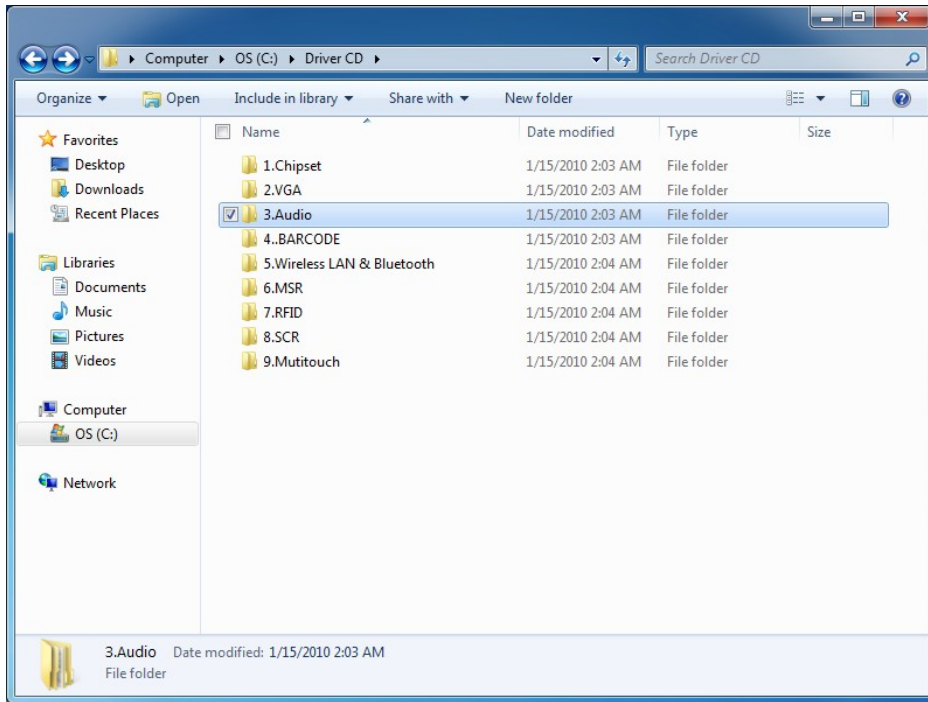

Figure 4-5: Speaker and Microphone Driver Location
Step 1: Select **3.Audio** from the list of the driver CD shown in **Figure 4-5**.